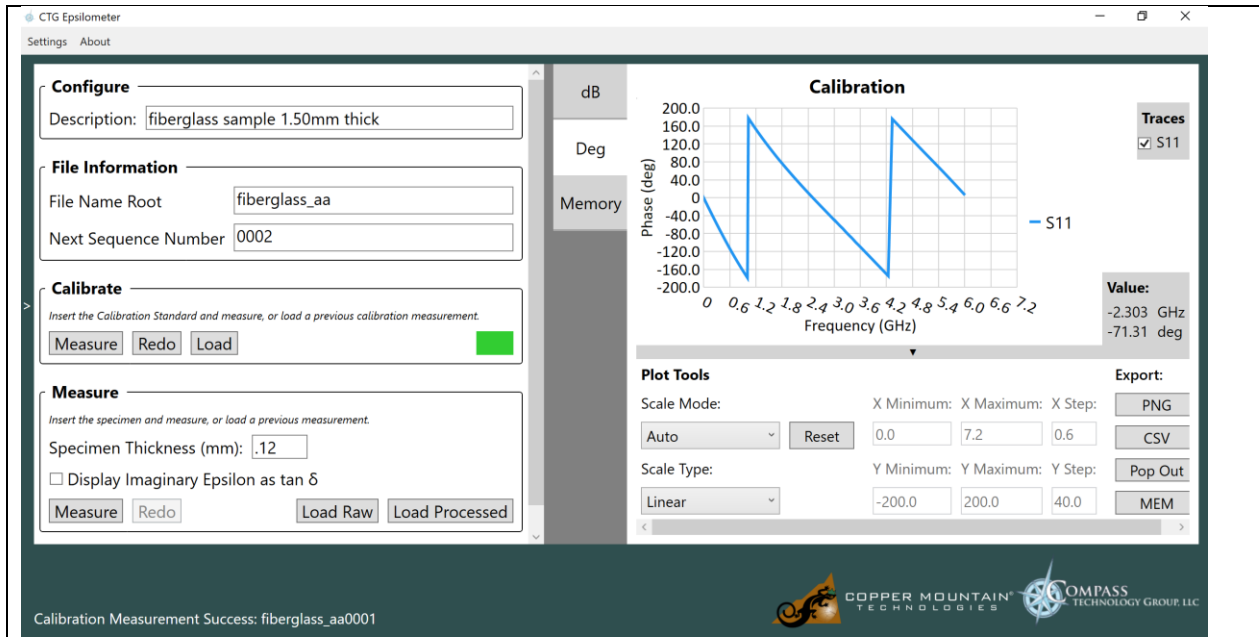

Figure 11. Calibration Success (Deg Tab)
5. Click “Measure” in the “Calibrate” Group Box. Notice the box turned from red to green. (Figure 11). (Appendix 1.3 for more detail). Make sure the plot appears and the tab on the left is “Deg.” The plot should look similar to the right side of Figure 11. The Teflon calibration specimen may now be removed.